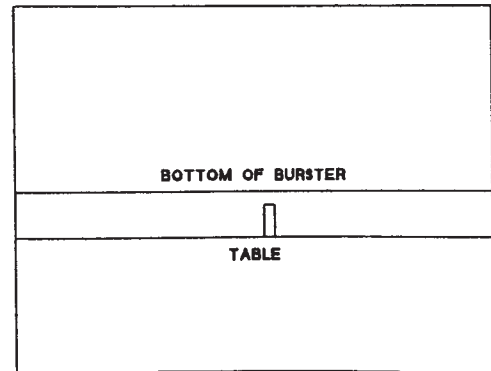

Fig 2
8. Set burster on cabinet, lining up holes in table with holes in burster frame. (Fig.2)